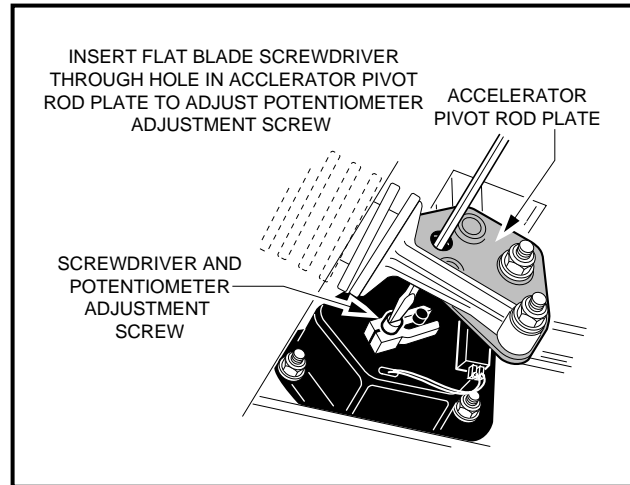

Figure 5-20 Potentiometer Adjustment Screw
- 6.8. Using a potentiometer adjustment tool or very small flat blade screwdriver (electronics type), turn the potentiometer adjustment screw until the CTM reads from 3.38 to 3.42 volts (**Figure 5-20, Page 5-12**). Then tighten the potentiometer locknut to 5 in-lb (.6 N·m).